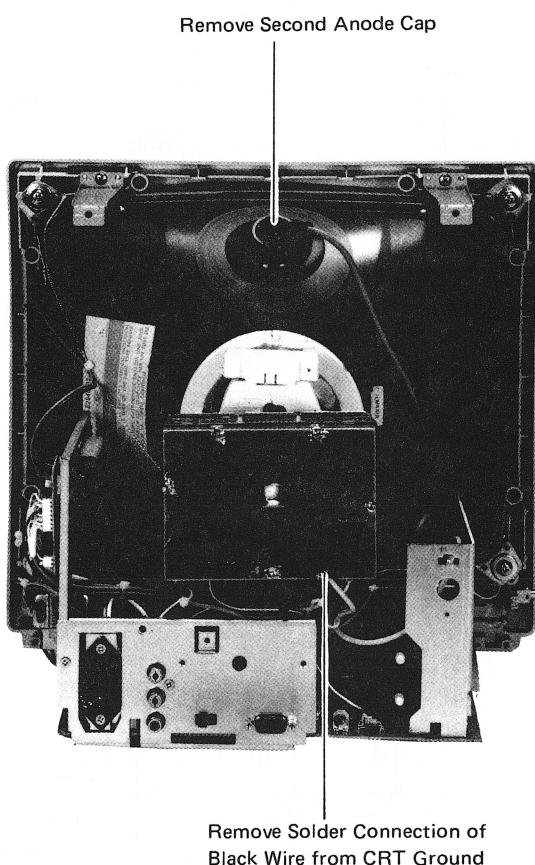

Fig. 5
5. Remove solder connection of the black wire connecting CRT grounding and neck p.c. board, then remove the neck p.c. board from the picture tube. (See **Fig. 5**)